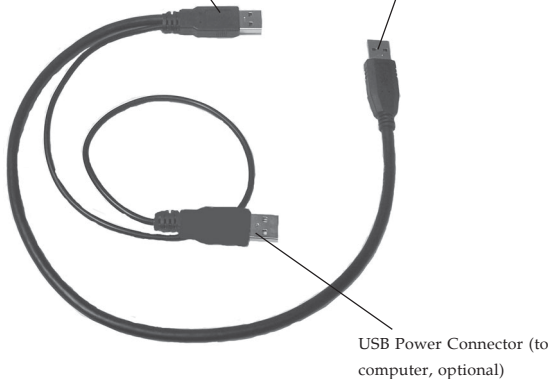

Figure 2: USB 3.0 Y-split Cable
7. Plug the **USB Data Connector**, see **Figure 2** on page 3, into a USB port of the computer.